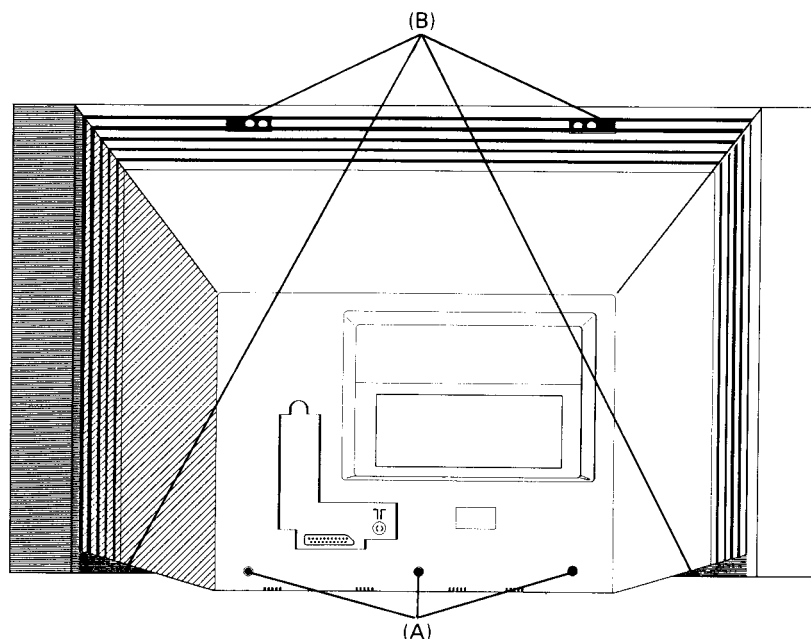

Fig. 3 Abb. 3
1. Remove 3 × Screws (A). (Fig. 3).
2. Use small flat screwdriver to push down 4 plastic clips (B), then remove rear cover.
1. 3 Schrauben entfernen (A). (Abb. 3).